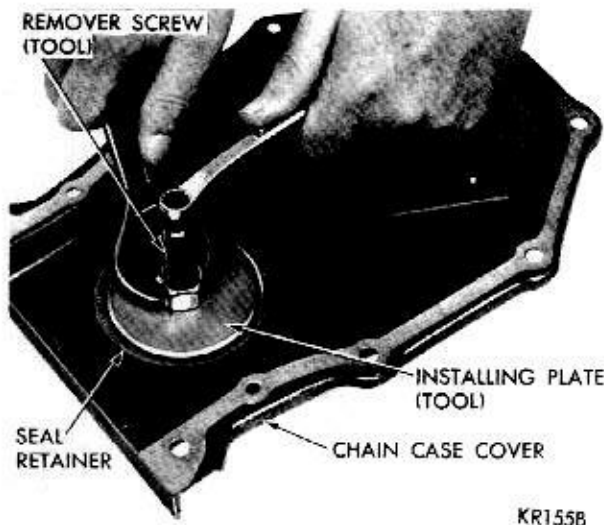

Fig. 22—Installing New Seal
(8) Install flat washer and nut on remover screw, hold screw and tighten nut (Fig. 22).
(9) The seal is properly installed when the neoprene is tight against face of cover. Try to insert a .0015 inch feeler gauge between the neoprene and the cover